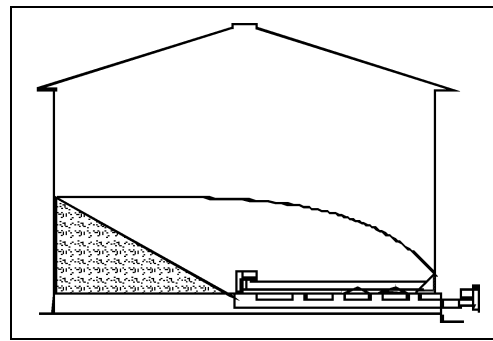
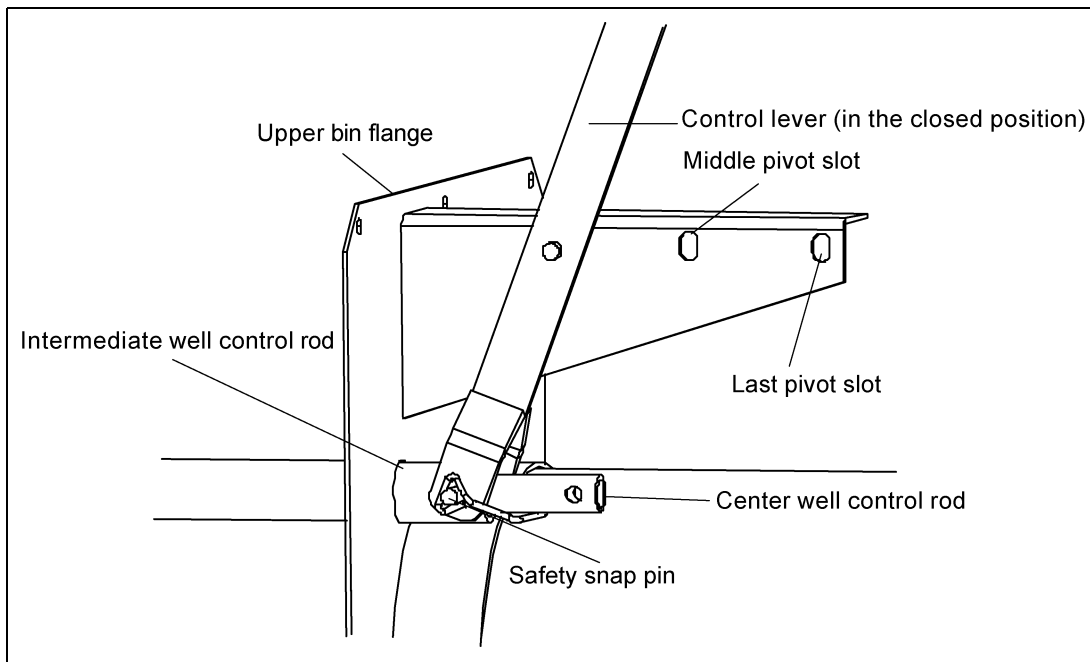

Figure 5B
Figure 5C
- B. The safety snap pin should be inserted through the center well control rod and the control lever. Make sure it has NOT been inserted through the intermediate control rod. (See Figure 5C on Page 32.)
- C. Place control lever in the second slot and pull lever to open gradually until the desired flow is established. (See Figure 5C.) It should not be necessary to open the gate more than 3" to 6".
F. Gradually open gates using the middle pivot slot until the desired flow of grain is reached. It should not be necessary to open the gates more than 2 to 4 inches. If gates need to be opened further, use the last slot for more leverage. (See Figure 5C.) The remaining grain in the bin should look similar to the pattern shown in Figure 5B on Page 31.